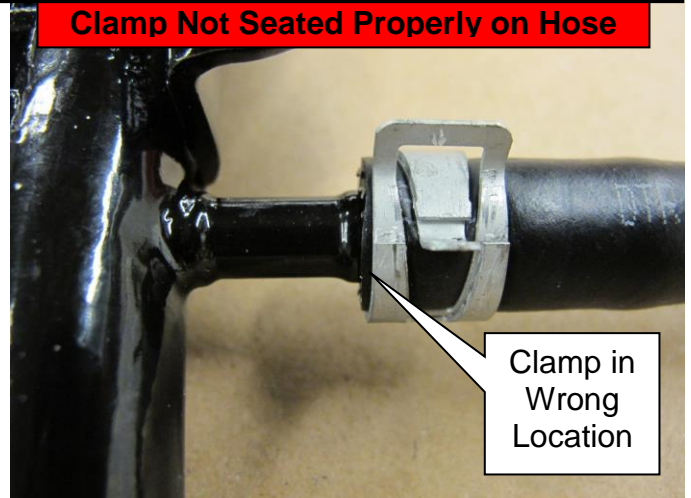

Figure 15
- Clamp not seated properly on hose (Too close to the end of the hose) (Figure 15).